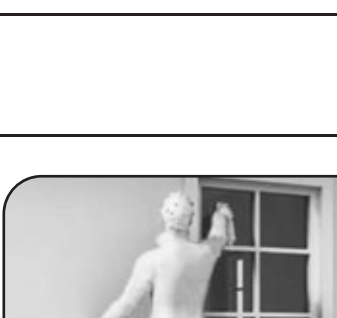

FIG. 1 CORRECT - USER MAINTAINING THREE POINTS OF CONTACT (MEANS OF SECURING OMITTED FOR CLARITY)
7.4 USING THE LADDER - FIGS. 1 - 2